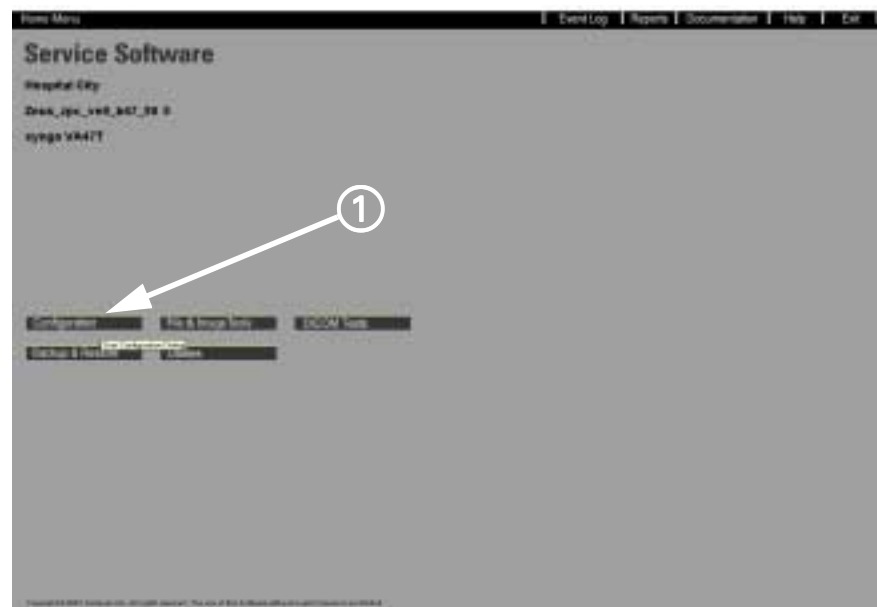

Figure 13-56 Syngo Service (Home Menu)
4. Click on *Configuration* button (① in Figure 13-56) in Syngo Service, Home Menu page.